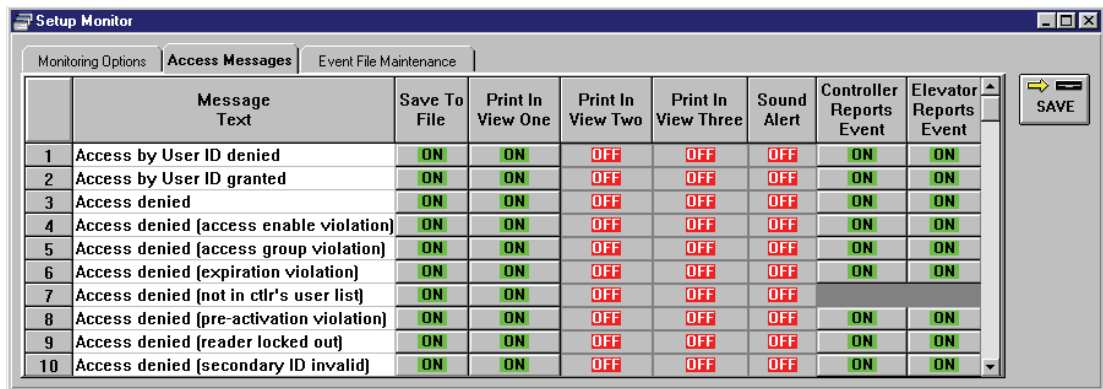

Figure 5-8: Event Messages and Configuration Fields
2. Click on the **Messages** tab. The Messages window appears (see Figure 5-8).